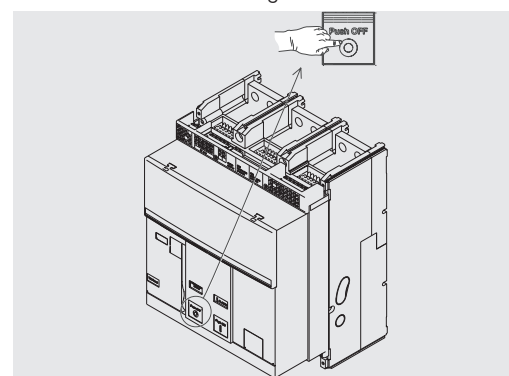

Figure 23
6. Opening - Press the opening pushbutton "O - Push OFF" as indicated in Figure 23.